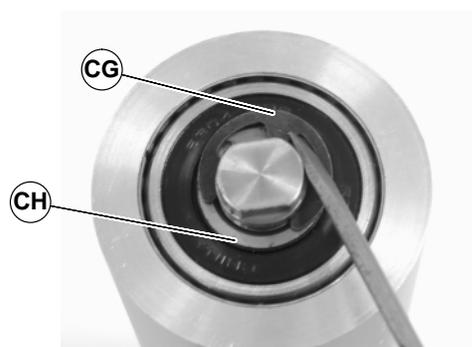

Figure 74
- Remove the pulley shaft assembly: remove the clip ring (CG of Figure 74) and washer (CH) from one side of the pulley assembly.